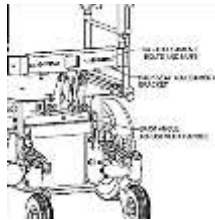

Figure 9
- i. **Manual Recline Angle (all backs)** The angle of the back may be adjusted through a range of 5° forward to 40° back with a gas spring assist. To adjust the angle move the release lever "A", in Figure 9, forward, move the back to the new position and then release the lever. The back has a level of pre-tension and will wish to return to the most forward position when the release lever is moved forward. The release lever is always activated by pushing forward, whether recline angles are being increased or decreased.